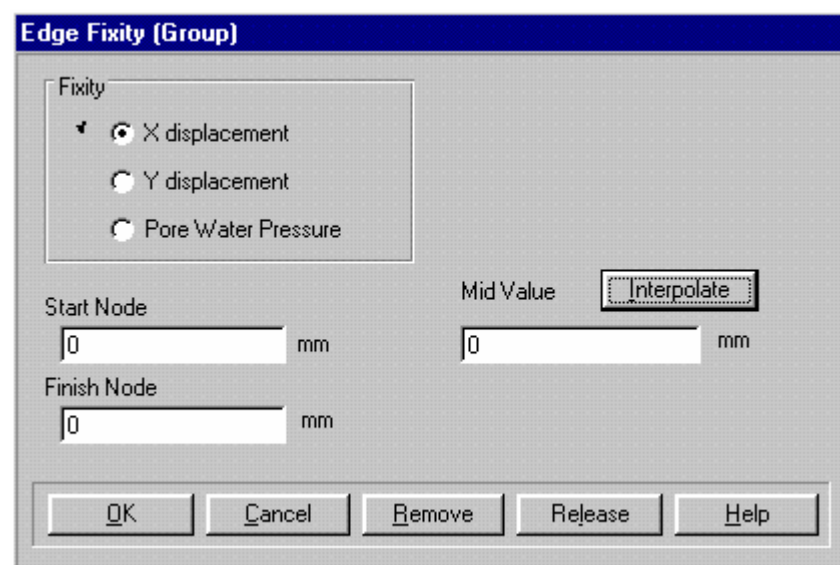

Figure 6-29: Defining Edge Fixities
- Step 7** The Edge Fixity dialogue box should now look like Figure 6-29. Click on OK to exit, once you have finished.